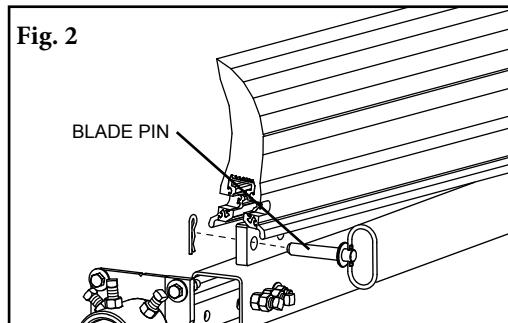

Fig. 2
2. **Remove the worn blade.** Remove one blade pin and remove the blade from the pole (Fig. 2). Clean all fugitive material from the pole.